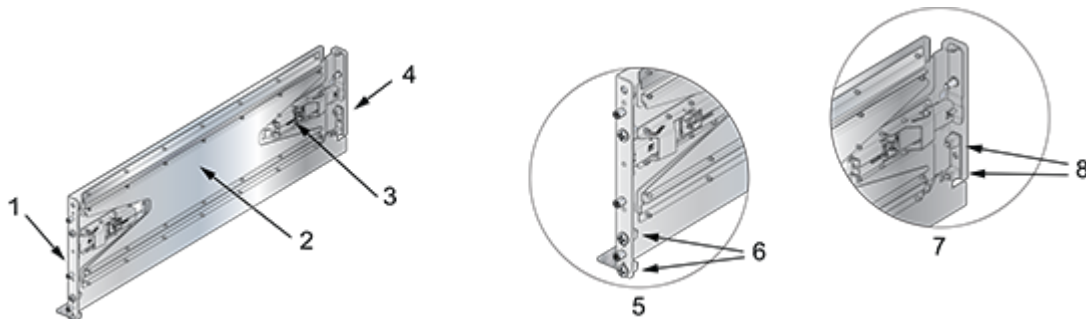

Figure 7: Right Shelf – Outer View
Figure 7: Right Shelf – Outer View displays the outside view of the right shelf, from where rack plugs and guide pins that insert into rack posts are visible (Insets A and B). To install shelves into posts with threaded or rounded holes, attach the shelves with bolts that fit the rack. Remove all plugs from the shelves if present.
3. Close the front locking mechanism latch (Figure 7: Right Shelf – Outer View).
6. Close the rear locking mechanism latch if present (Figure 7: Right Shelf – Outer View).